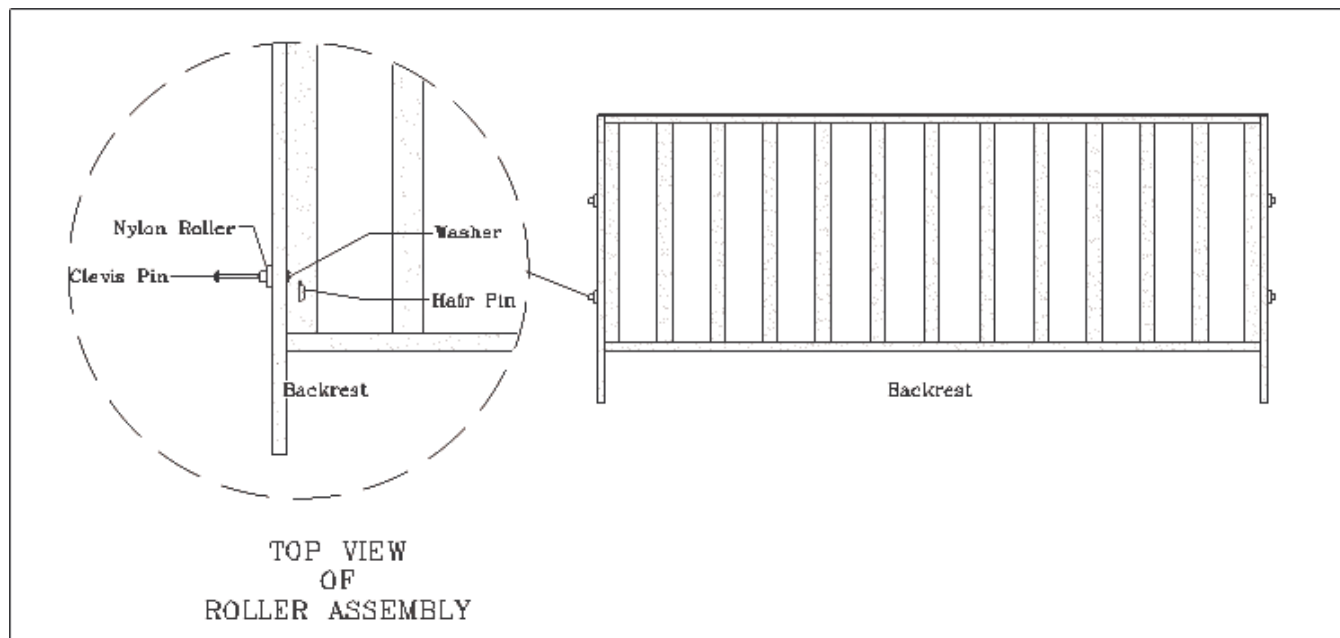

Figure 3
- 4) Locate backrest. Place clevis pin through narrow end of a nylon roller and then through one of the two remaining holes in the side of backrest. Place a flat washer on the end of the clevis pin. Insert hair pin through clevis pin hole. Repeat this step for remaining rollers (Figure 3).